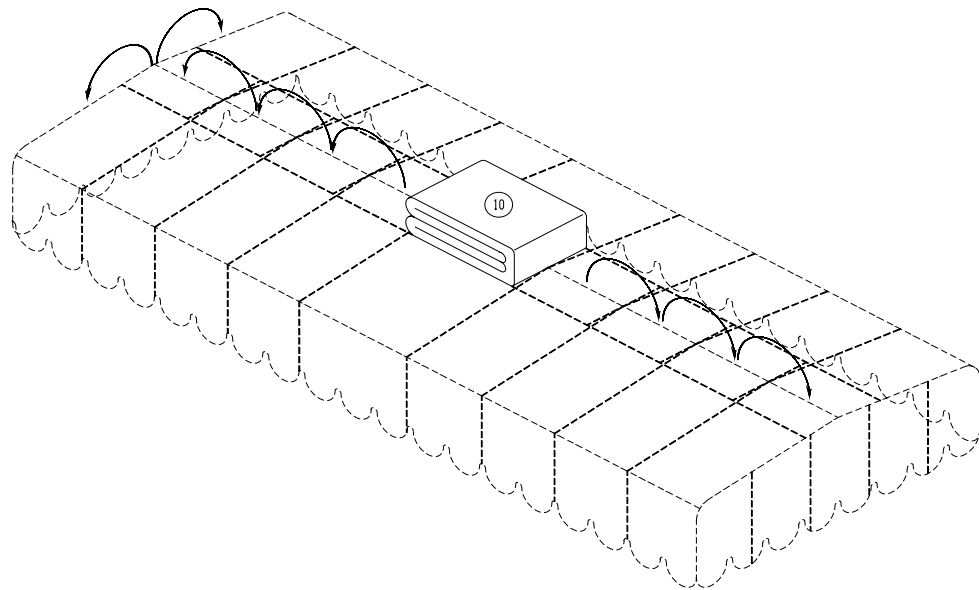

Figure 2-8.
17. Refer to **Figure 2-8**. Place the canopy fabric bundle on top of the canopy frame and unfold down the length of the frame; then unfold across the width. Pull fabric snugly over the frame.